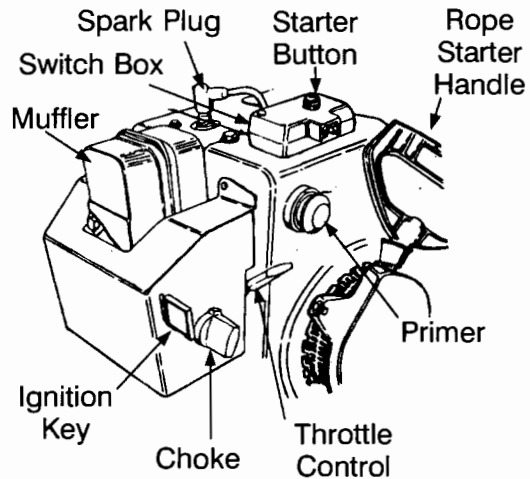

FIGURE 8 - Your engine may be slightly different from the engine shown .
- Move throttle control up to FAST position. Insert ignition key into slot. See Figure 8. Be certain it snaps into place. Do not turn key.
- Push primer button two or three times as instructed in the separate engine manual. See Figure 8.
- Push starter button to crank engine. See Figure 8.
- Grasp starter handle (see Figure 8) and pull rope out slowly, until it pulls slightly harder. Let rope rewind slowly.